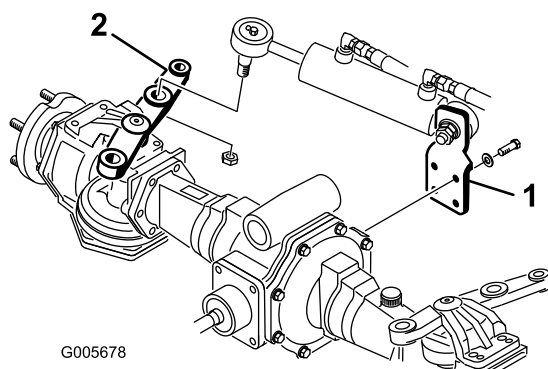

Figure 3
2. Mount cylinder support bracket to rear of axle with 4 screws (M10 x 30) screws and washers (Figure 3). Apply Loctite 242, or equivalent, and torque screws to 48-60 ft-lb. (65-81 N-m).
4. Secure ball joint end to steering arm with castle nut (Figure 3) and torque it to 70-90 ft-lb. (94-122 N-m). Install cotter pin.